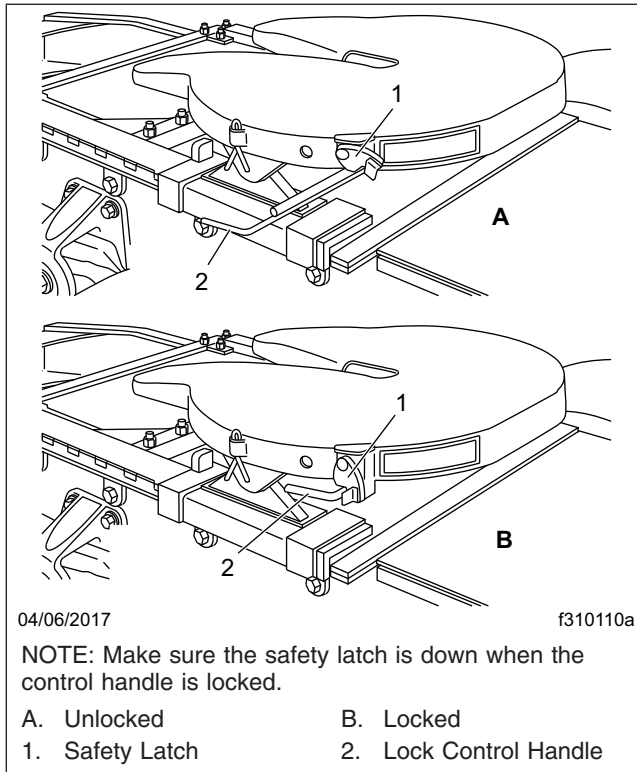
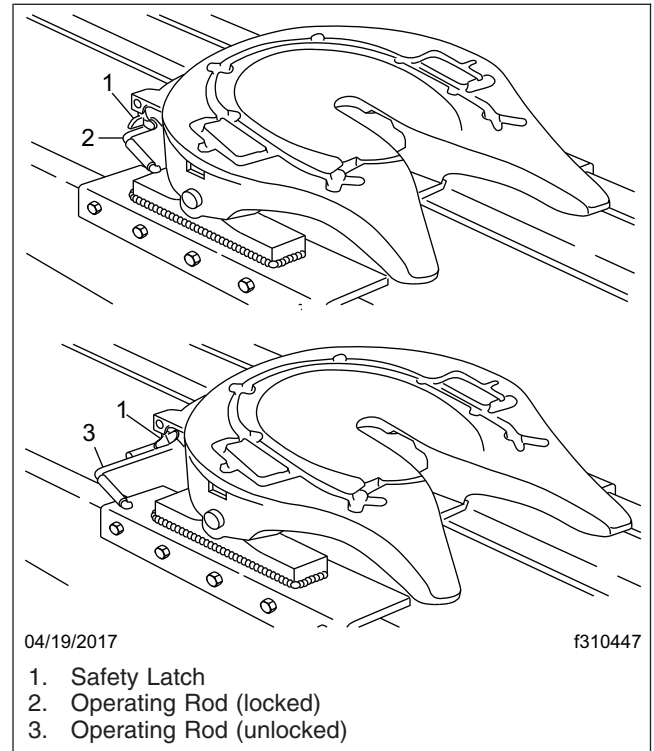

Fig. 10.2, Fontaine Locking Mechanism
Fig. 10.3, Holland Simplex SE Locking Mechanism
2. Ensure the fifth wheel jaw is fully open and the operating rod is in the unlocked position. See Fig. 10.2 or Fig. 10.3.
When lockup has occurred, the fifth wheel control handle moves to the locked position. Make sure that the safety latch is down over the lock control handle to hold the control handle in the locked position. (The safety latch will only rotate down if the operating rod is fully retracted in the locked position.) See Fig. 10.2 for Fontaine fifth wheels. See Fig. 10.3 for Holland fifth wheels.